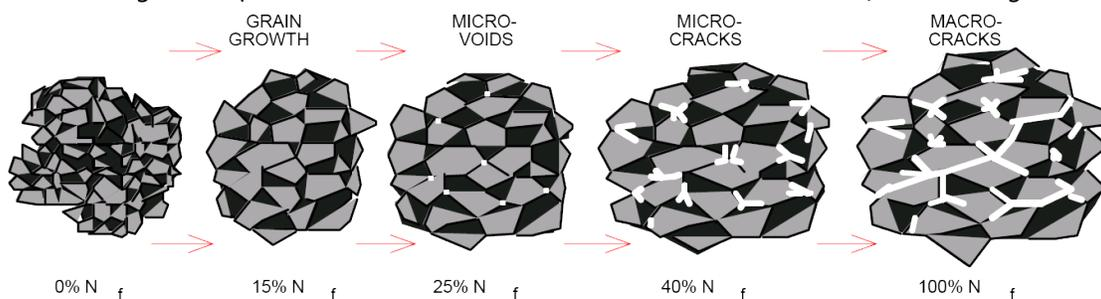

Figure 1: Depiction of the Effects of the Accumulating Fatigue Damage in Solder Joint Structure [!].
*“The grain structure of solder is inherently unstable. The grains will grow in size over time as the grain structure reduces the internal energy of a fine-grained structure. This grain growth process is enhanced by elevated temperatures as well as strain energy input during cyclic loading. The grain growth process is thus an indication of the accumulating fatigue damage. At the grain boundaries contaminants like lead oxides are concentrated; as the grains grow these contaminants are further concentrated at the grain boundaries, weakening these boundaries. After the consumption of ~25% of the fatigue life micro-voids can be found at the grain boundary intersections; these micro-voids grow into micro-cracks after ~40% of the fatigue life; these micro-cracks grow and coalesce into macro-cracks leading to total fracture as is schematically shown in Figure 1.” (SOLDER JOINTS IN ELECTRONICS: DESIGN FOR RELIABILITY, Werner Engelmaier, Page 2)*